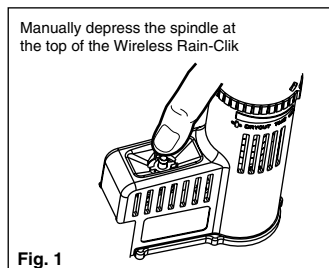

Fig. 1
2. Connect one wire to the RS terminal and other to the C terminal (See Fig. 1).
- The unit can be tested stand-alone as follows: press and hold the post on the quick response section (See Fig. 1). Within 3 seconds of pressing and holding this post down, the LED protruding from the potting should blink once. Release the post, within 3 seconds the LED should blink once again.